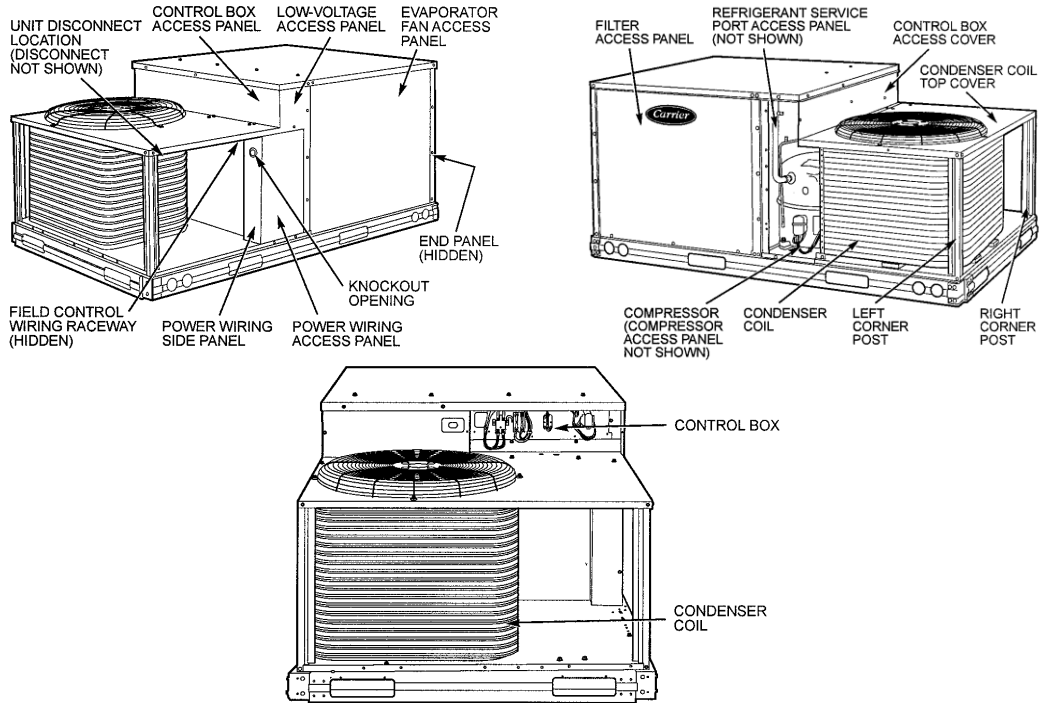
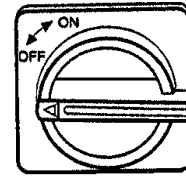

FIGURE 1 – Typical Component Location
FIGURE 2
The On/Off switch (Disconnect) is mounted on the unit under the top panel and behind the condenser coil. **Reference Figure 1 – and Figure 2.**
1. Ensure On/Off switch (Disconnect) is turned to "Off" position. The On/Off (Disconnect) switch is "Off" when turned counter-clockwise. **Reference Figure 2.**
7. Turn On/Off switch (Disconnect) to "On" position. Turn On/Off switch (Disconnect) to "On" position by turning clockwise. See **Figure 2**.
8. Check supply air duct to ensure cool air is being discharged when condenser is on. When unit is turned "On", the evaporator blower fan located inside the fan access panel (**Reference Figure 1**) begins rotating. After approximately 30 seconds, the compressor and condenser fan "kicks on".
1. Turn Disconnect to "Off" position. The On/Off (Disconnect) switch is "Off" when turned counter-clockwise. **Reference Figure 2.**